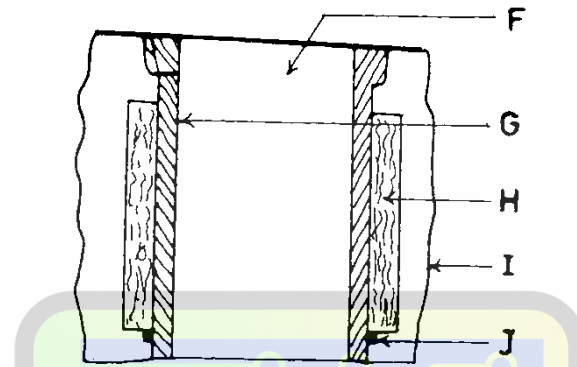

Figure 2
a. The sketch in Figure 2 shows a type of cylinder block.